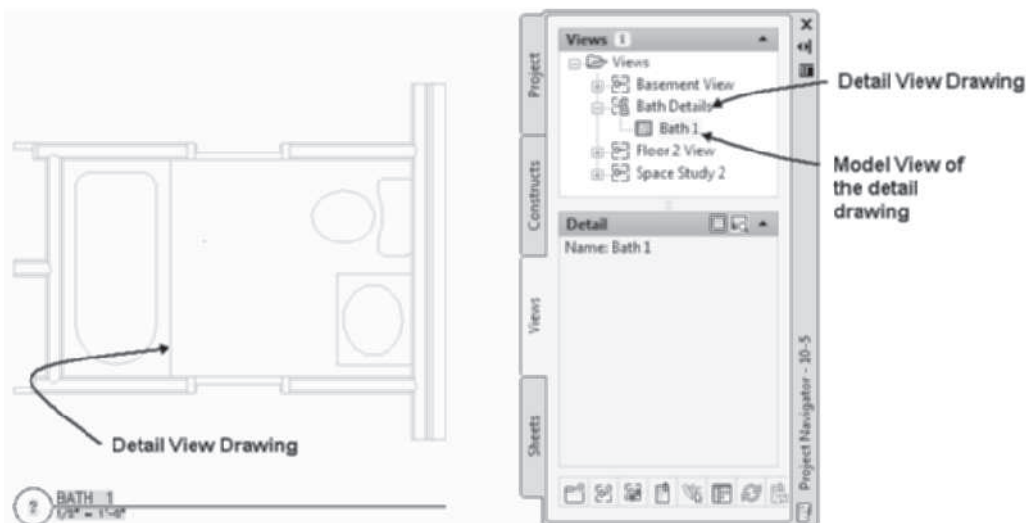

FIGURE 12.36 Opening the Detail View drawing from the Views tab
9. Double-click **Bath Details** from the **Views** tab to open the detail as shown in Figure 12.36.
The content of the detail is created on the A-Elev layer with the 2D Section/Elevation Style-2D Section Style Background style. The 2D Section/Elevation Style-2D Section Style Background style can be copied and the layer assignment of each display component can be modified to permit selected entities to print. This technique can be useful if an extensive quantity of lines from the detail object is useful to the detail. After modifying the section/elevation style, you could select the linework of the detail as shown in Figure 12.36 and change the display component assignment of this linework using the 2DSectionResultEdit and 2DSectionEditComponent commands.